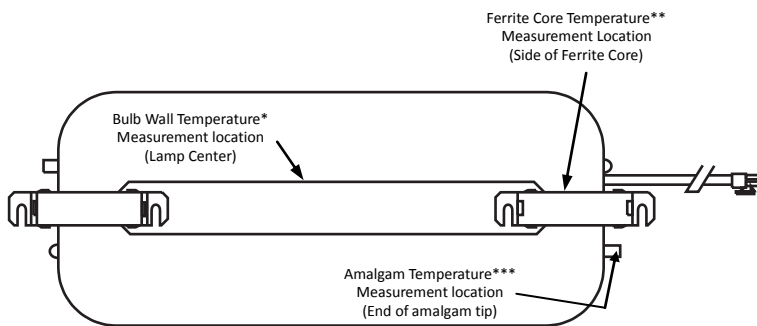

Figure 28: Measurement Points on ICETRON[®] Lamp
1. Connect thermocouples to the lamp test points and the ballast test point (see figures 28 and 29). Allow enough slack in the thermocouple wires to permit measurements when the fixture is mounted as it would be in the field. Refer to section 4.4.1 for further instructions on mounting thermocouples.